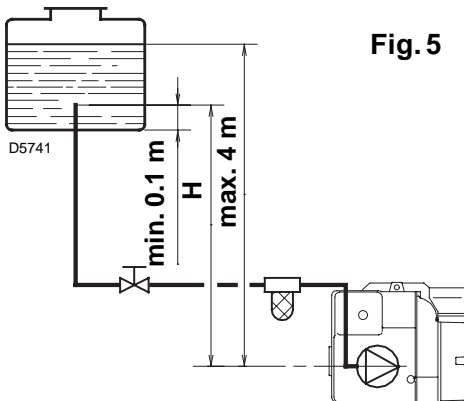
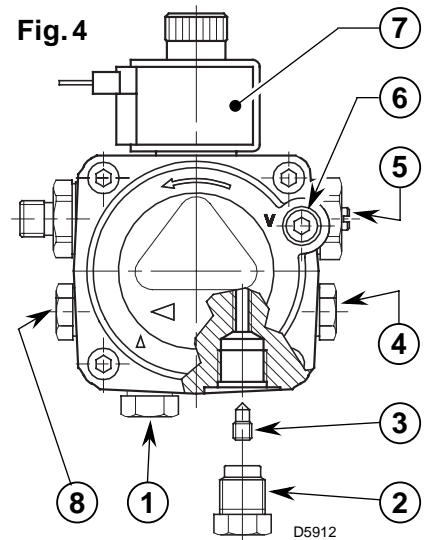

Fig. 5
Fig. 4
In order to obtain one pipe working it is necessary to unscrew the return plug (2), remove the by-pass screw (3) and then screw again the plug (2). (See fig. 4).
On the system in fig. 5 it is sufficient to loosen the suction gauge connection (6, fig. 4) and wait until oil flows out.